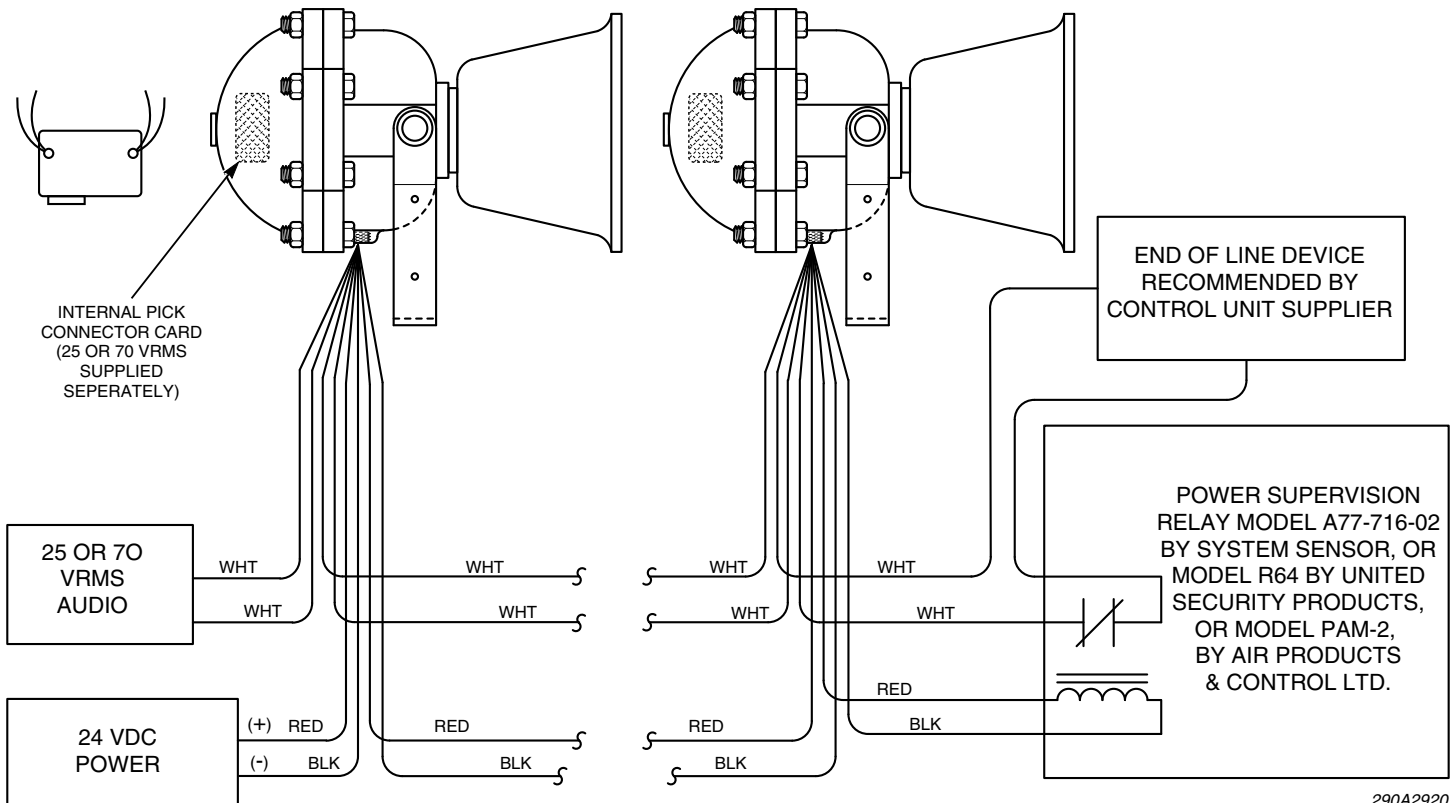

Figure 4: Typical connector card (PTCK) installation wiring
2. See figure 4. Connect the device's red (+) leads to the power source positive (+) lead. Connect the device's black (-) leads to the power source negative (-) lead.
Check with authority having jurisdiction for proper application of EOL resistor and power supervision relay required (see figure 4).